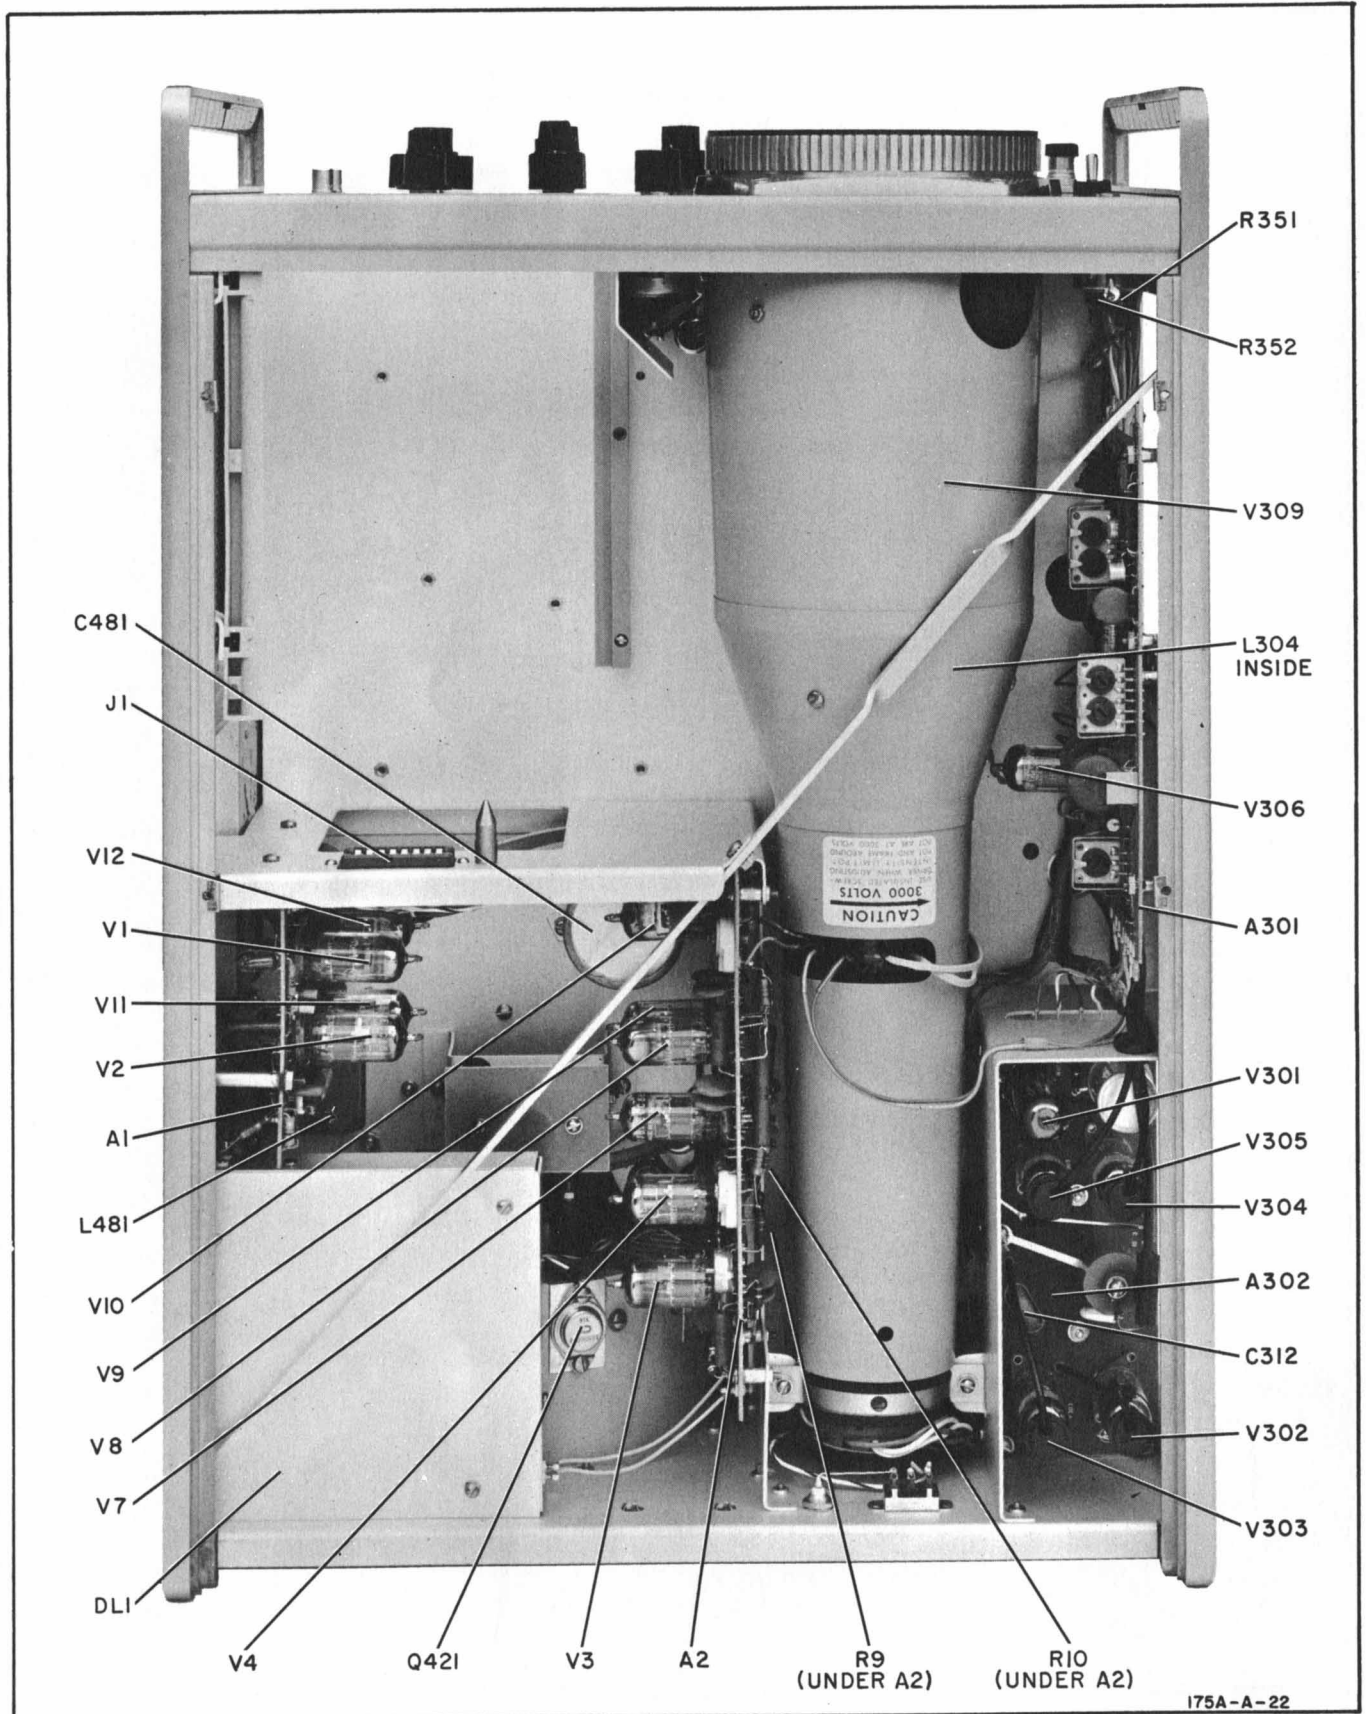

Figure 5-12. Model 175A Component Locations, Top View
b. Remove all leads connected to neck of crt (see figure 5-12).